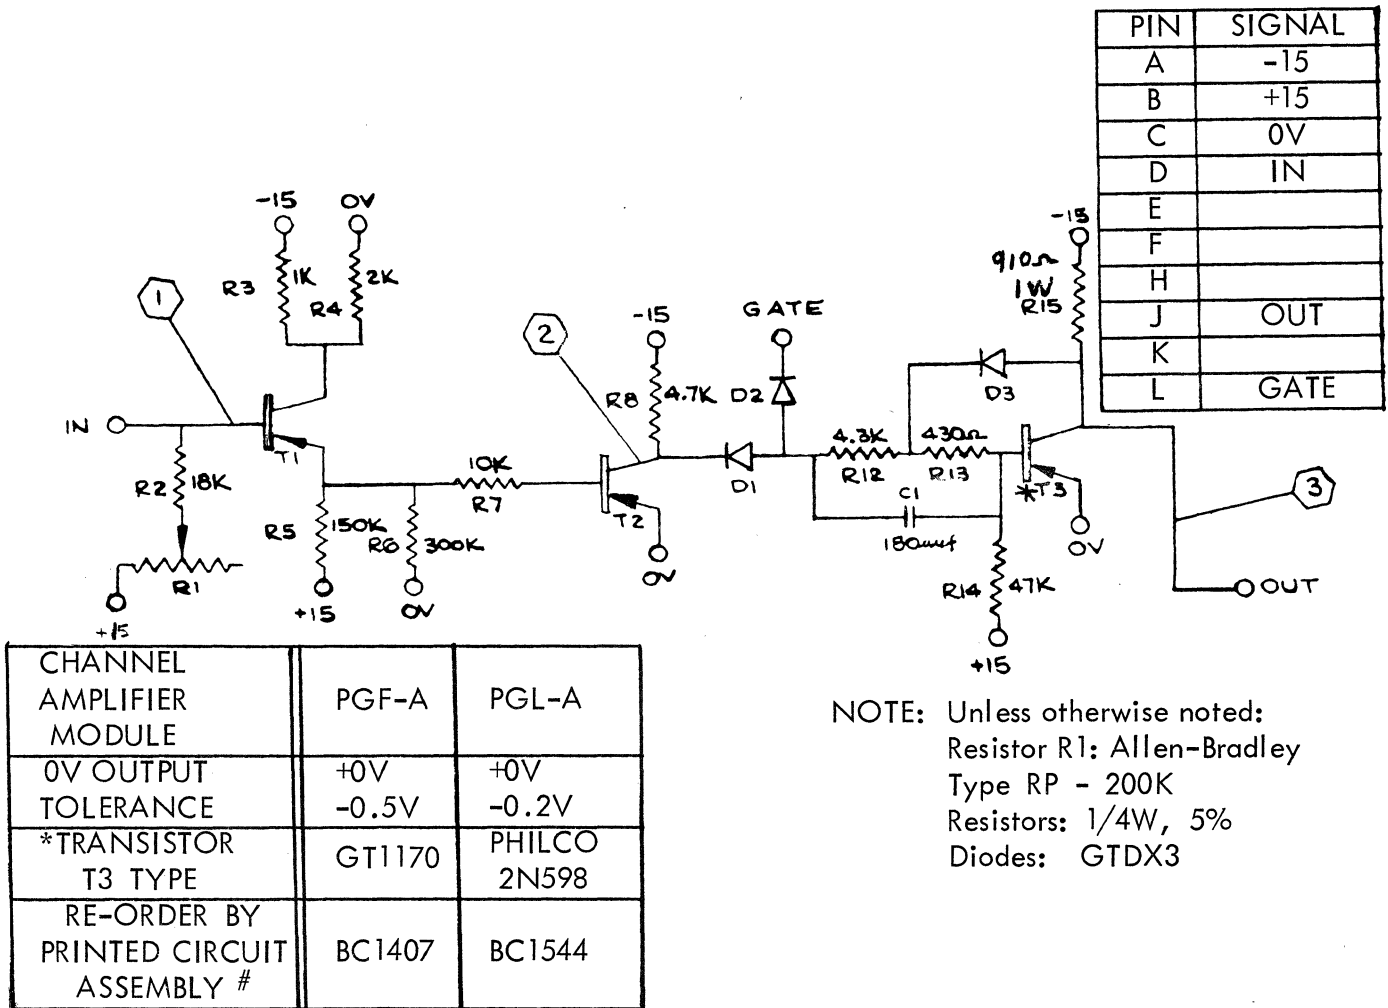

FIGURE 3-5 SCHEMATIC DIAGRAM - PGF-A or PGL-A
(5) Circuit Description Data Channel Amplifier PGF-A (See Figure 3-5)
This unit contains 8 data channel amplifiers type PGF-A (figure 3-5). Each of these amplifiers produce an output of -10 volts into a 2K load for a hole condition and 0 volt for a no-hole condition. These 8 outputs are applied directly to the input/output plug J-1, pins L, M, N, P, R, S, T, and U.